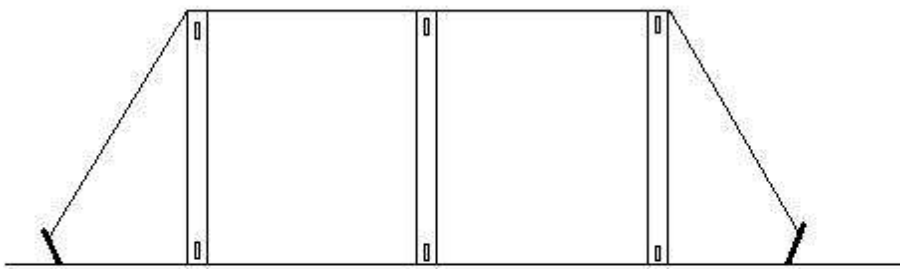

Figure 1.4
Step 8. Making sure that your fence post are straight and plumb is a crucial step in your vinyl fence project. After you have set a fence line stretch a line across the two end post. This will allow you to adjust the height of your post. Adjust the fence up or down to create a uniform fence line. To raise a post pull it gently up out of the ground. To lower a post use a soft blow hammer and tap the top of the post. Allow your post to set in concrete for at least 48hrs before installing your sections. (Fig 1.4)